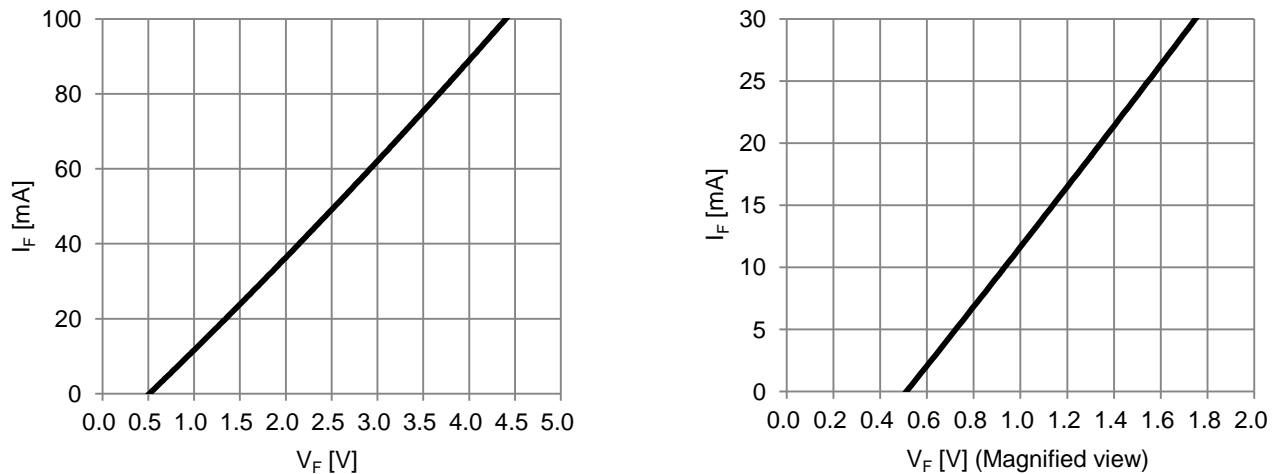

Figure 2. Built-in Bootstrap Diode V_F - I_F Characteristic ($T_C=25^\circ C$)
- The characteristics of bootstrap diodes are shown in Figure 2.